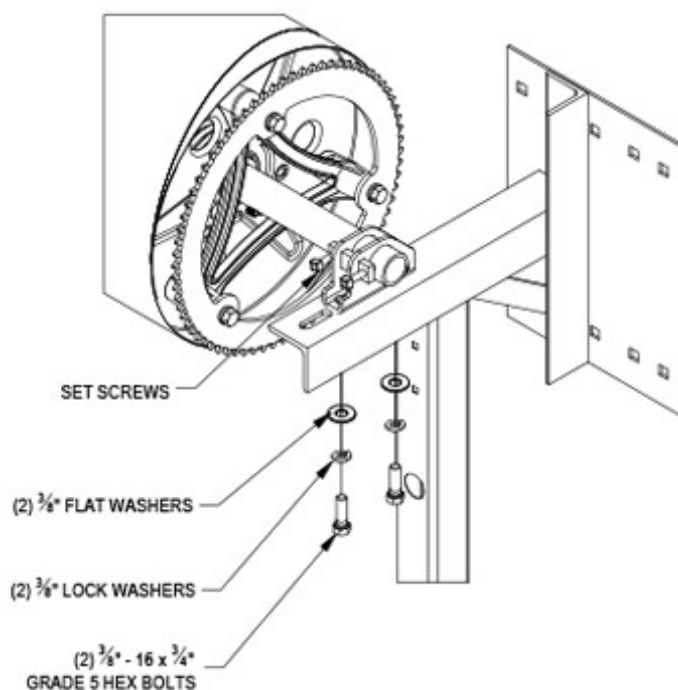

**FIGURE 14:
- Attach Stamped Axle Support to door bracket using 3/8" - 16 x 3/4" grade 5 hex bolt, 3/8" lock washer and 3/8" flat washer. *See Figure 14.*